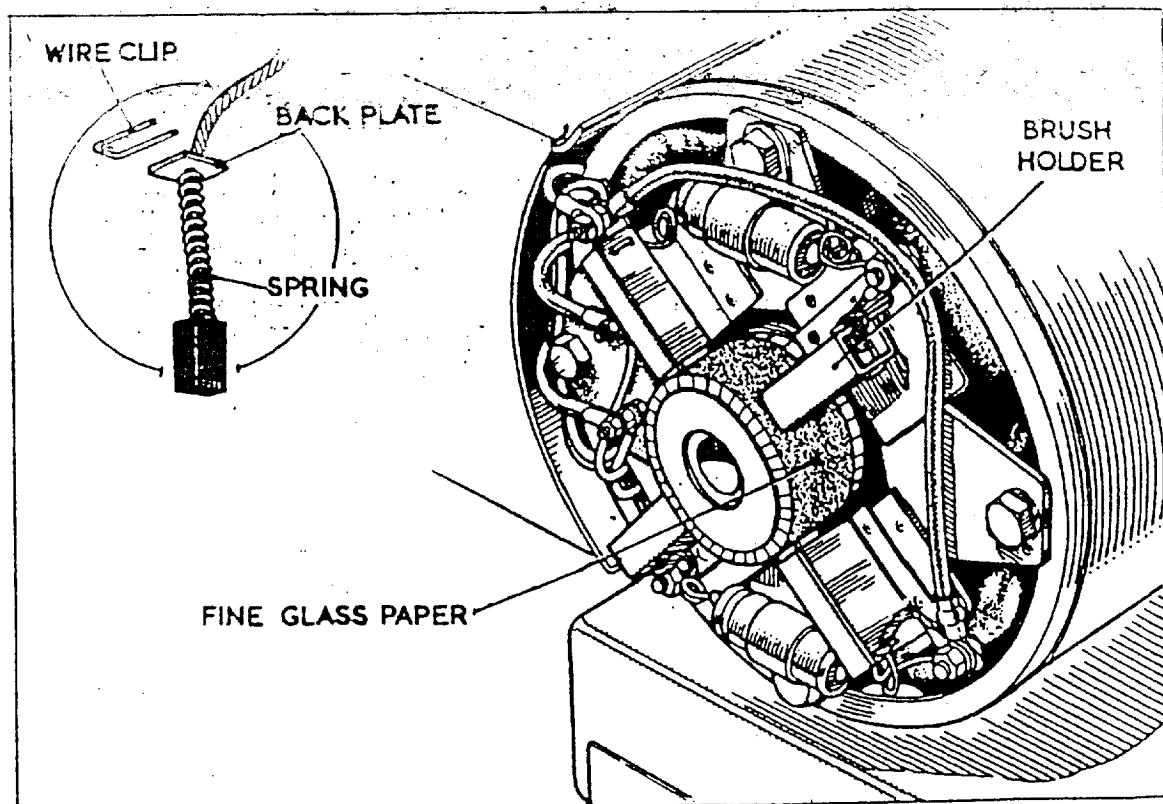

Fig. 26. Replacing Generator Brushes.
3.9.3. To check and Replace the brushes. Fig.26. The brushes are held in position by means of U shaped pieces of wire having the ends folded inwards. Attached to each brush is a short length of copper wire and on this is threaded a coil spring and a back plate. The spring and back plate are secured under the wire clip and the lead from the brush is brought out to a terminal through the arms of the clip. To remove a brush. Remove the wire clip and draw out the brush from the brush holder. When a new set of brushes are fitted they must be bedded down to the radius of the commutator as follows:- Fit a strip of fine glass paper round the commutator rough side upwards. Fit the brushes into the brush holders and fit the wire clips but do not fold in the ends of the clips. Rotate the armature clockwise (viewed from the commutator end) until the ends of the brushes are the same radius as the commutator. Remove the brushes and the glass paper. Clean all parts with a dry rag. Fit the brushes and secure the ends of the clips. Connect the brush leads to the terminals. Replace the fan and tighten up the armature bolt securely. Fit the cover and the securing screw. Tighten the screws of the control box fixing.